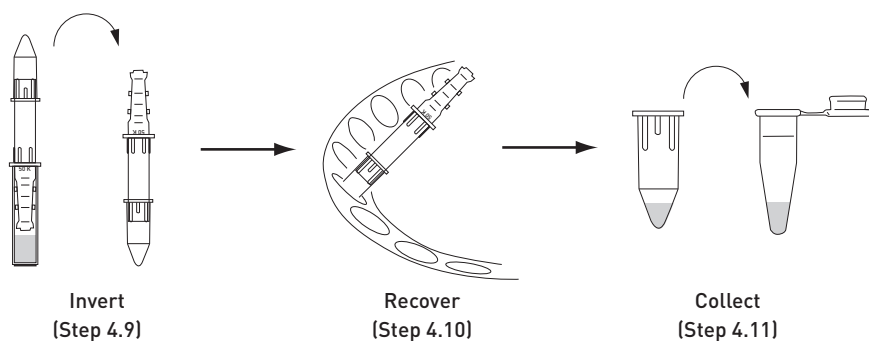

Figure 6 Collection of purified and concentrated azide-modified antibody
- 4.9 Invert the antibody concentrator into the conical collection tube as shown in Figure 6.